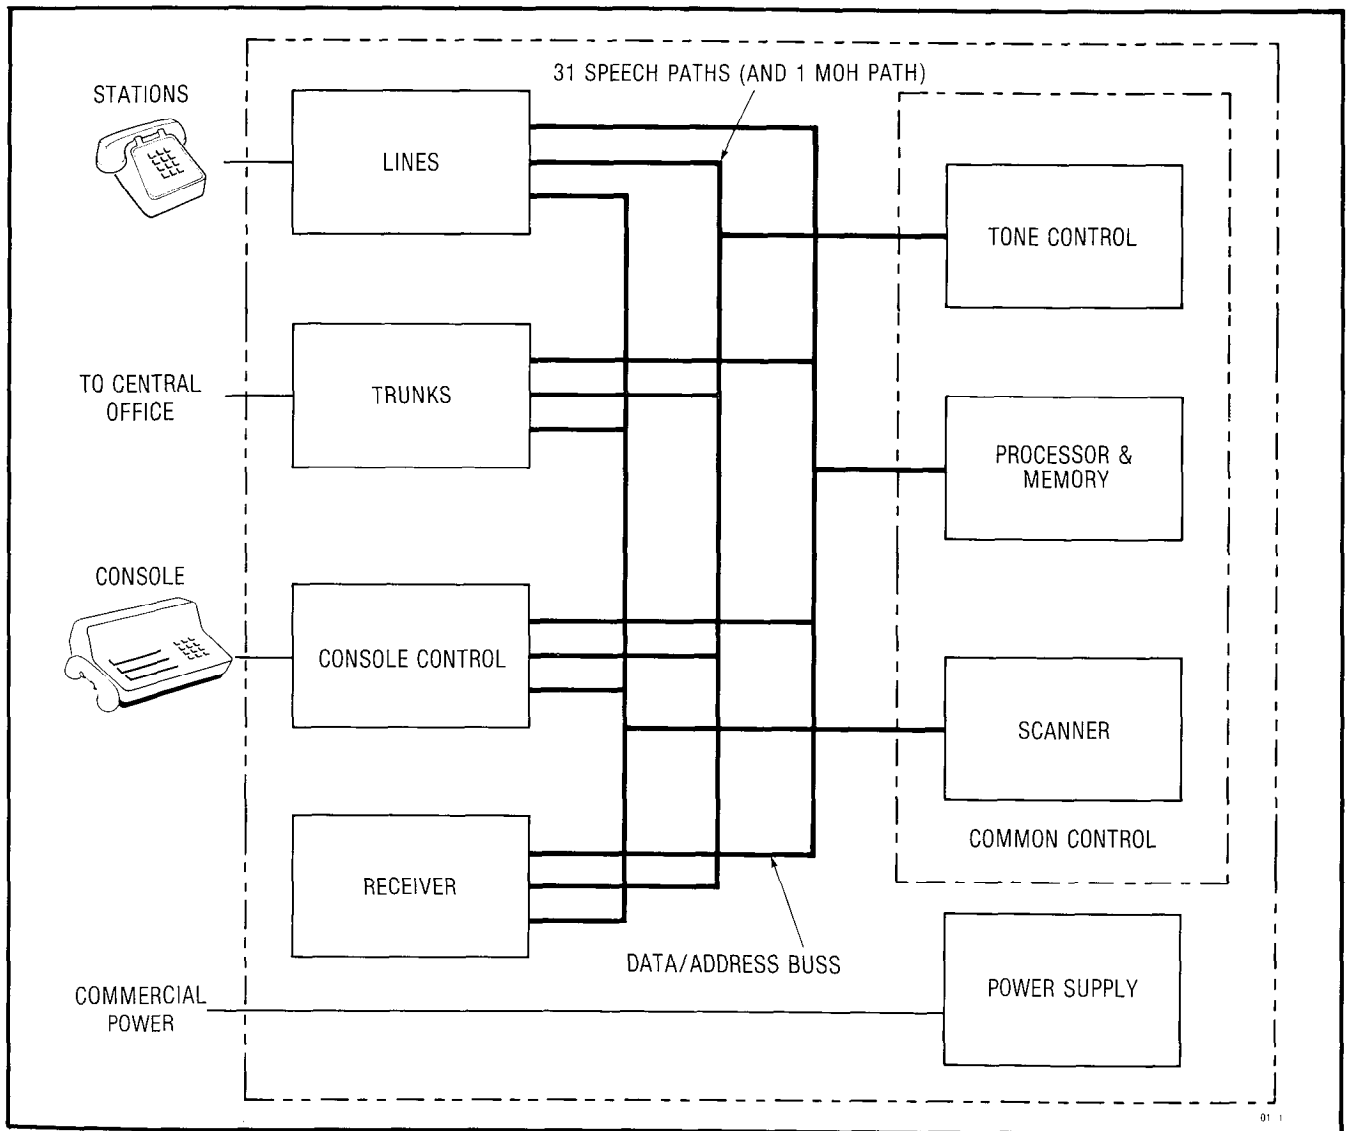

Fig. 3-1 System Block Diagram
3.01 The systems are solid-state PABX's employing space division switching and microprocessor control of call processing. A block diagram of the PABX is shown in Fig. 3-1.